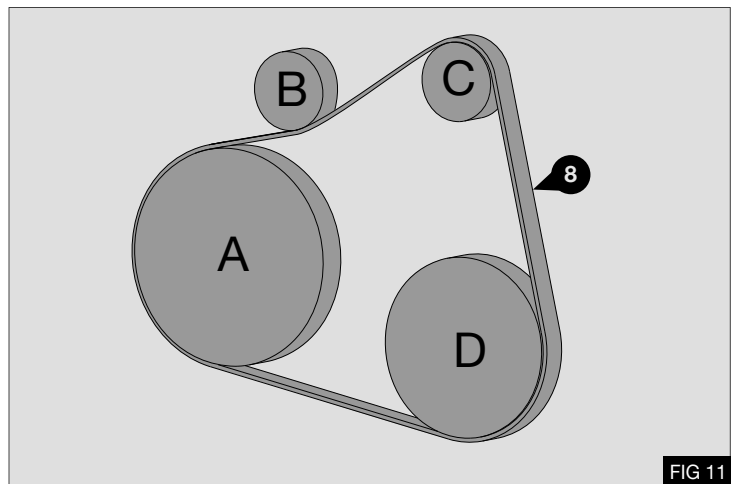

FIG 11
- Install the supplied drive belt  as shown opposite – Fig 11